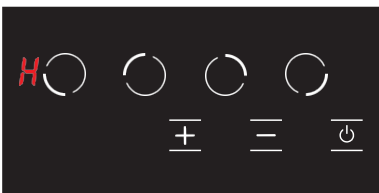

Figure 13
3. If any hob is still hot after 20 seconds, **H** symbol is displayed until the temperature of the relevant hob becomes lower than +60 °C. (see Fig. 13) No icon is displayed after the Hob is turned off if the relevant hob is not hot.